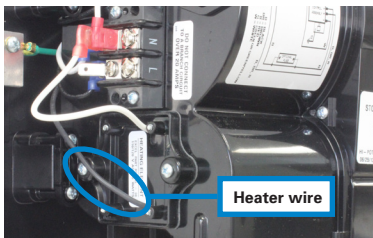
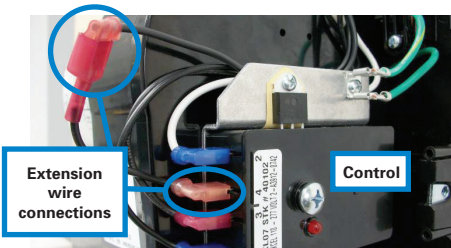

Figure 2-1
Figure 2-2
Step 2-1. Trace the black, brown or red wire (Figure 2-1) from the heating element to the control (It may go to the #3 or #4 labeled terminal on the control) and disconnect from the control. Attach the heater extension wire (E) to the wire just disconnected by inserting the female flag terminal into the male connector on the extension wire. Connect the other end of the extension wire back to the Control (Figure 2-2).